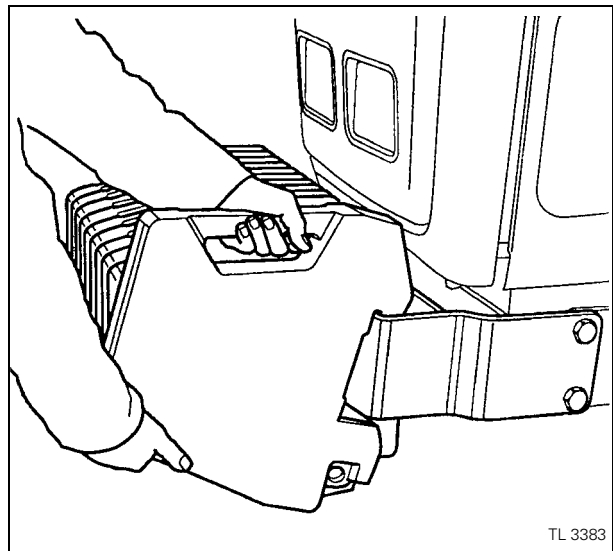

Fig. 18
- Use front counterweights to increase tractor stability when towing a heavy load or to counter balance a heavy rear mounted implement (Fig. 18).